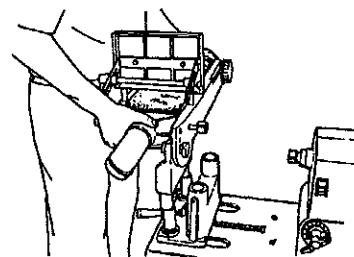

Fig.F-1
4. Insert the Belt Sander mounting tubes into the short holes of the Power Station carriage (21), with the Belt Sander's drive shaft pointed toward the Power Station headstock. You may need to adjust the Belt Sander's tubes to fit them in the tube holes. See Fig.F-1.